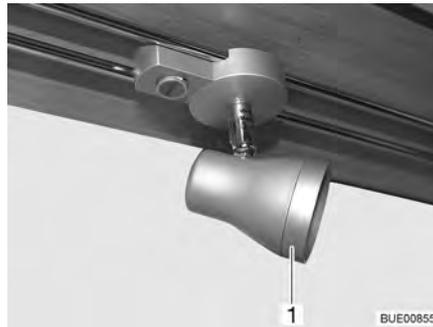

Fig. 257 Halogen spotlight (movable)
- Turn outer ring (Fig. 257,1) in an anticlockwise direction until it separates from the housing.